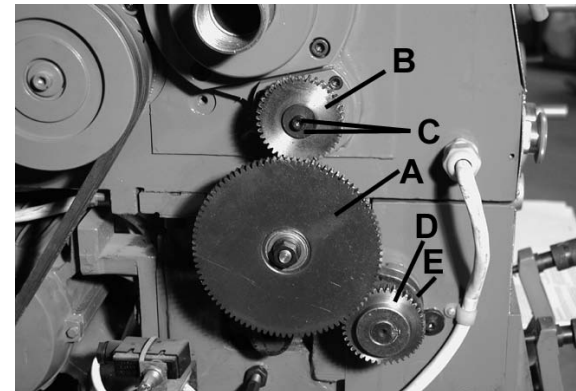

FIGURE 16
To obtain metric threads the proper metric change gears must be installed inside the left side cover. Remove the 2 lock nuts which hold the left side cover to the headstock and then remove the side cover. The large middle gear (A) Fig.16 is the only gear which does not get interchanged. The bottom gear (D) gets replaced with the 60T gear. The top gear (B) can be replaced by the 26T, 27T, 35T, 45T & 50T, the top gear determines the threads per mm.